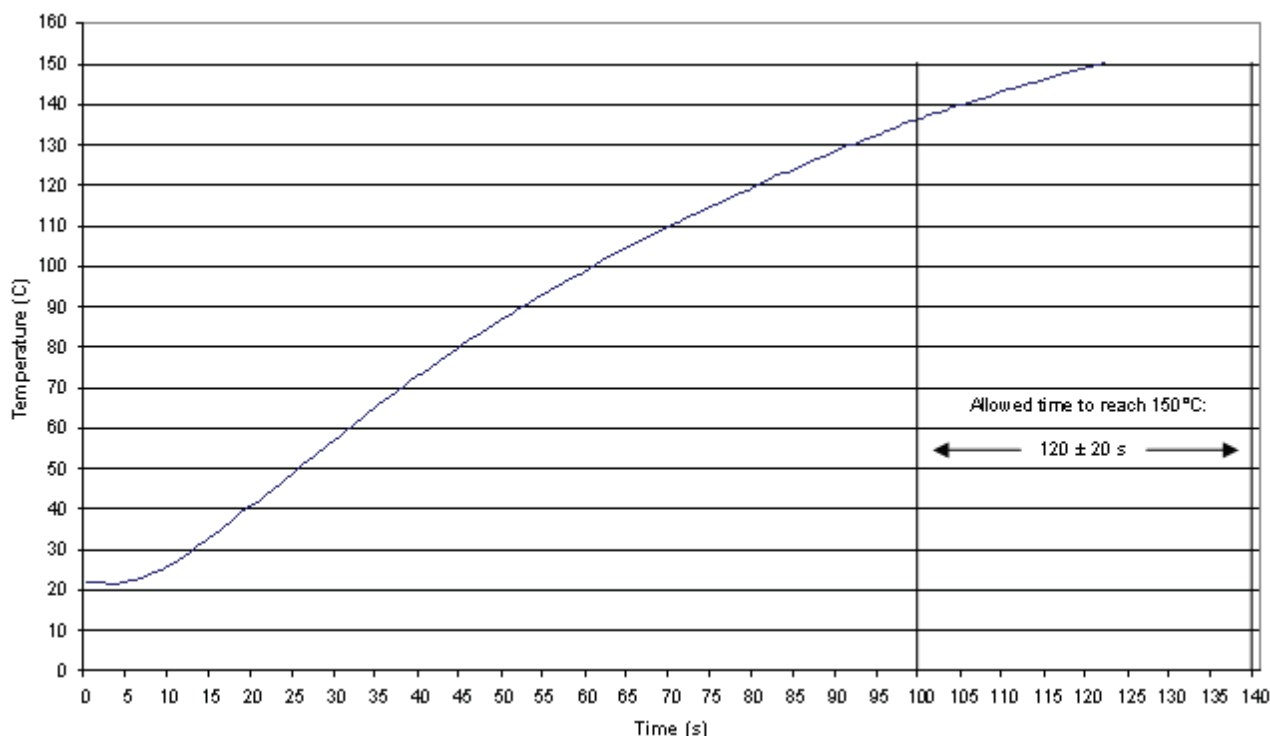

Figure 19
6. Compare the heat gun heating profile to the profile given in Figure 19. The heating profiles should match. If not, the heat gun must be adjusted to match the profile. Repeat the procedure using different settings to find the optimal temperature setting.